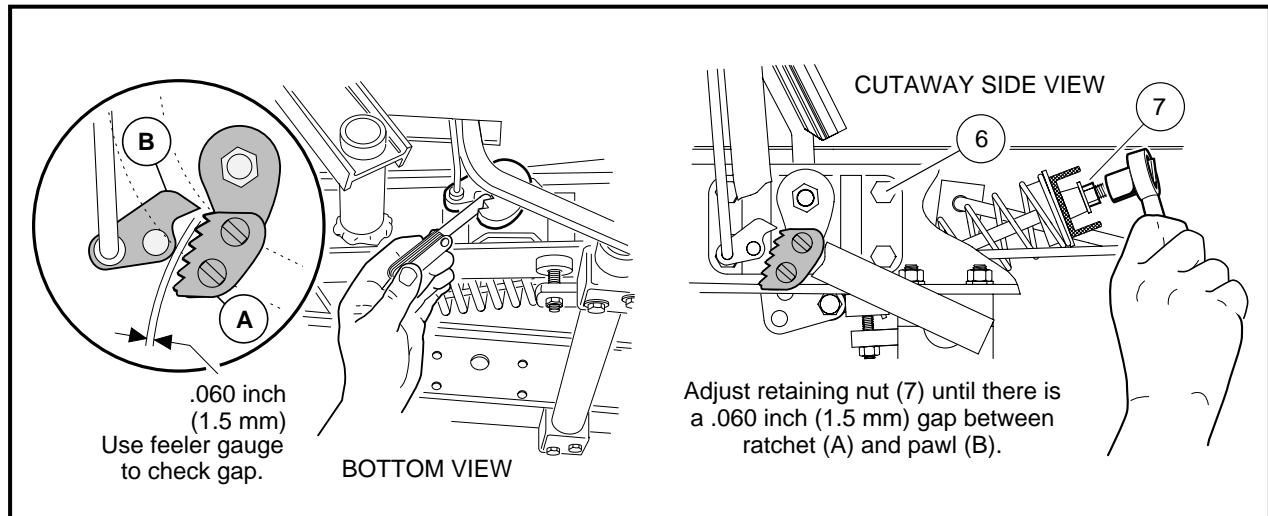

Figure 5-11 Adjust Park Brake Ratchet/Pawl Gap
- 2.2. Adjust retaining nut (7) on spring support rod until there is a .060 inch (1.5 mm) gap between the pawl and the tips of the ratchet teeth. Use a feeler gauge to verify the gap (**Figure 5-11, Page 5-9**). The gap should be consistent through range of pawl movement. If the gap is not consistent, loosen the four bolts (6) securing the accelerator pivot rod supports and adjust the supports (**Figure 5-11, Page 5-9**). If the gap becomes smaller as the park brake pedal is depressed, move the pivot rod supports slightly rearward until the gap is consistent. If the gap becomes larger as the park brake pedal is depressed, move the pivot rod supports slightly forward until gap is consistent. **Read following NOTE before proceeding.**